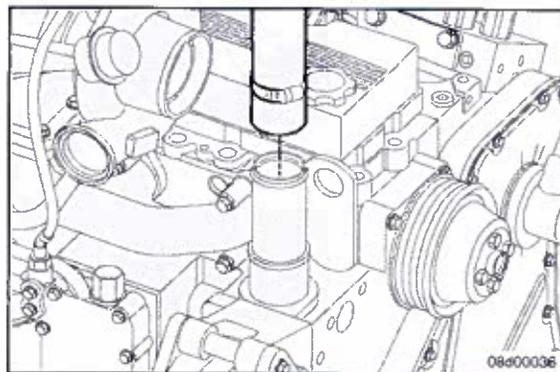

Fig. 1
4. Remove the radiator hose from the water outlet connection. (Fig. 1)
1. Check if heater supply/return hoses were connected to engine correctly per Fig 1 hose routing. *If hoses are not connected correctly at engine supply/return manual shutoff valves, replace only the section of hose inside bus from bulkhead connector to first heater. Disconnect/reconnect "supply/return" hoses in engine compartment per Fig 1 supply/return hose routing.*
2. Disconnect supply heaters coolant hose at engine cutoff valve (see Fig 1).
3. With 10 p.s.i. of shop air pressure, blow air through supply hose to remove coolant from heater system (see Fig 1 for location of supply hose in engine compartment).
5. Remove original heaters supply hose inside passenger compartment only and replace with new hose part no. 10023231 (see Fig 1). Torque all heater hose clamps to 34 inch lbs.